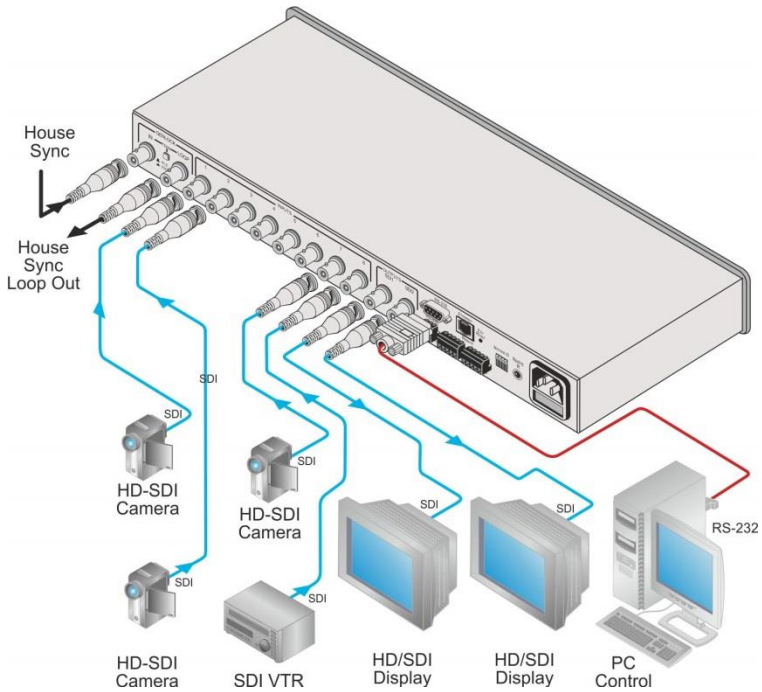

Figure 3: Connecting the VS-81HDx1 8x1 HD/SD-SDI Switcher
You can use your **VS-81HDxI** to switch one of the eight HD/SD SDI inputs to the two identical HD/SD SDI outputs, as the example illustrated in Figure 3 shows.
To connect the **VS-81HDxI** as illustrated in the example in Figure 3:
4. As an option (not illustrated in Figure 3), you can connect: